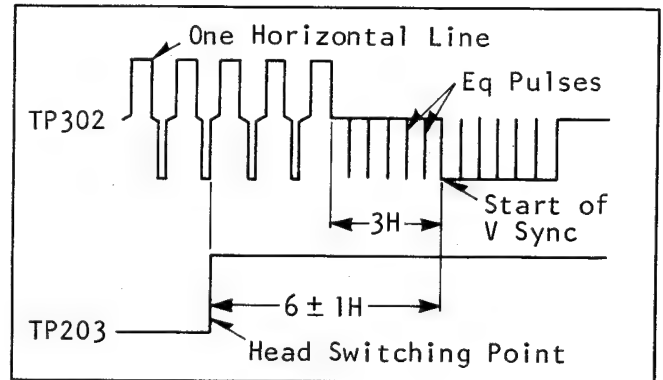

Fig.E24.
5. While recording, adjust the REC SHIFTER (R224) so the recording head switching point is $6 \pm 1H$ before the start of vertical sync as shown in Fig.E24.